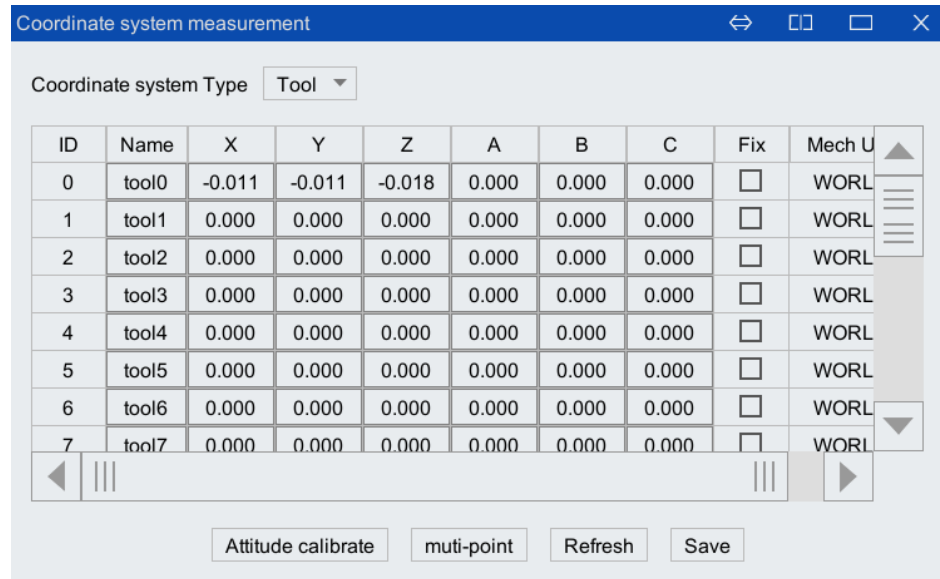

Figure 8-8 Select the row where the tool coordinate system is located
- Step1. Click [Run/Calibrate/Coordinate Cali] on the upper right of the main interface of the teach pendant to enter the [Coordinate System measurement] interface, as shown in Figure 8-8.